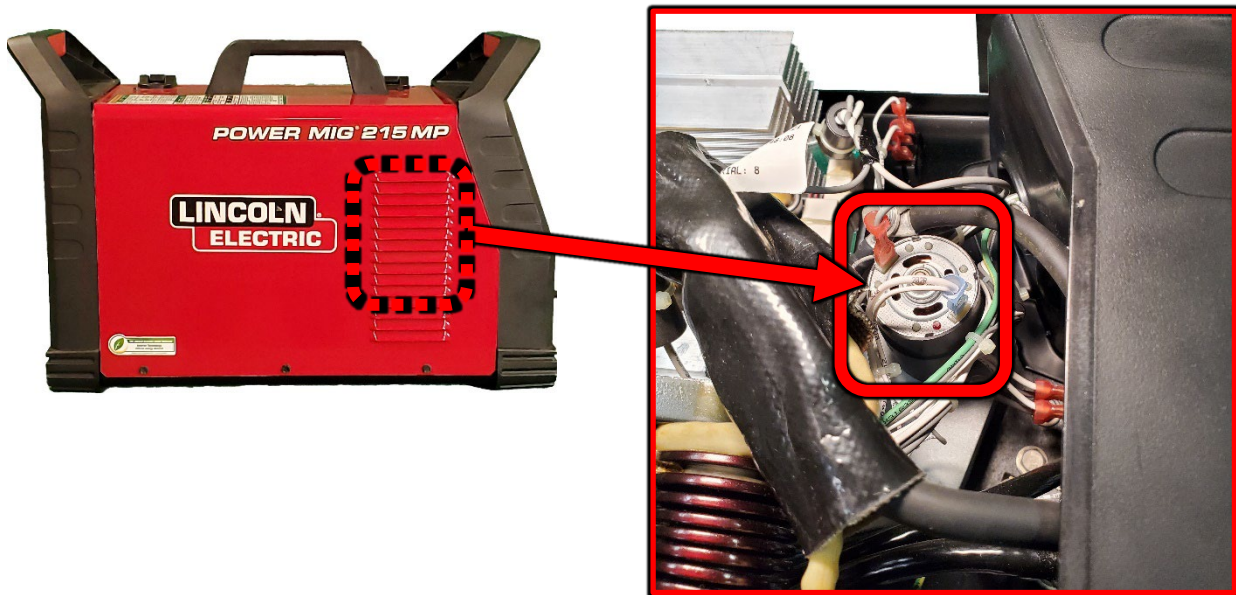

Figure F.1
1. For location of the Wire Feed Motor refer to Figure F.1.